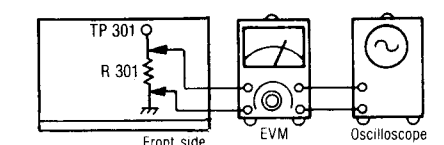

Fig. 9
⑥ Erase current	Condition: • Record mode	Equipment: • EVM (Electronic Voltmeter) • Oscilloscope • Test tape (reference blank tape) ...QZZCRZ for Metal
1. Test equipment connection is shown in fig. 9.